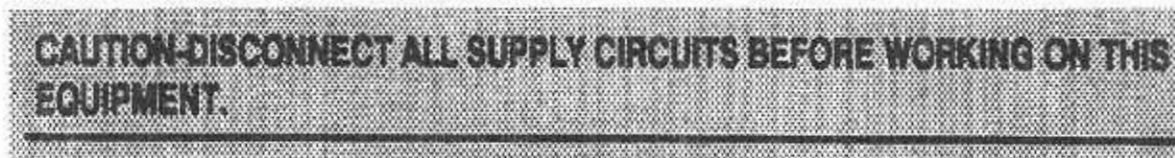

Figure 1-4. Caution label.
(2) A caution label providing electrical safety instructions, located on the control module door, is depicted in figure 1-4.